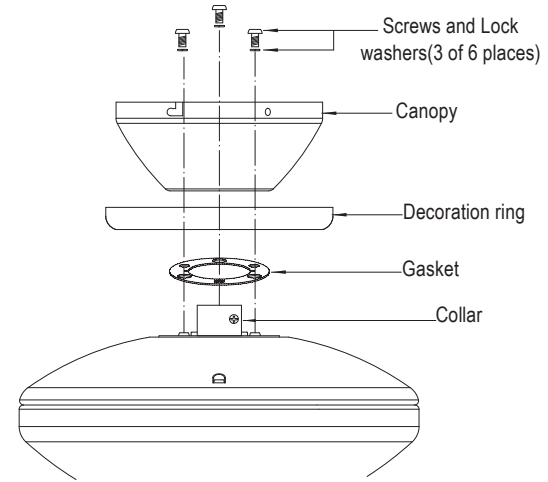

Fig. 8
**Step 3.** Remove three of the six screws and lock washers (every other one) from the collar of top motor (Fig. 8)
**Step 4.** Place the ceiling canopy with decoration ring and the gasket over the collar at the top of the motor. Align the mounting holes with the holes in the motor and fasten using the screws and lock washers provided. (Fig. 8)